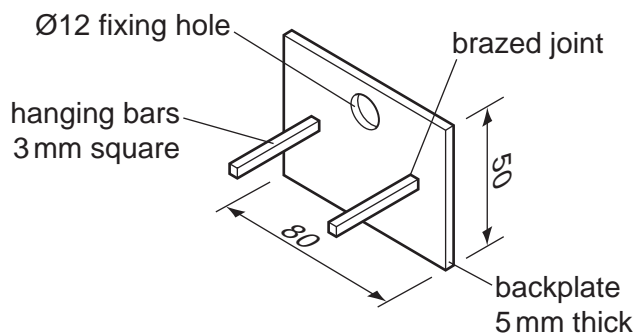

Fig. 1
- 3 Fig. 1 shows views of a hanger used to hold a garden spade. The hanger is made from mild steel.